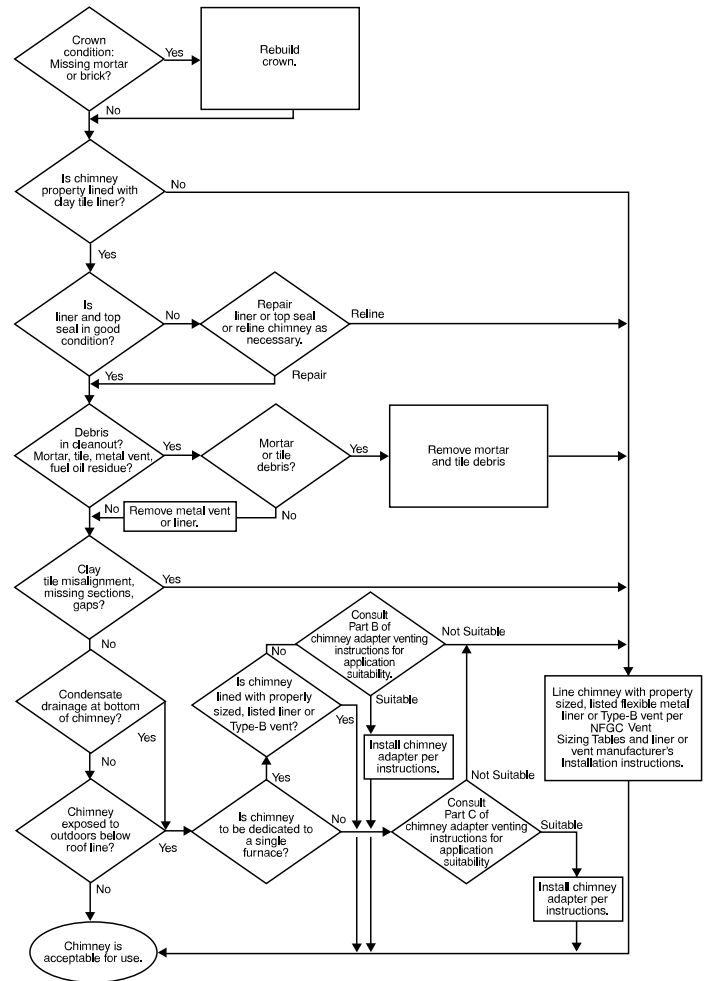

Fig. 37 – Chimney Inspection Chart
7. Do not vent this appliance into an unlined masonry chimney. (Refer to Chimney Inspection Chart, Fig. 37).
Inspections before the sale and at the time of installation will determine the acceptability of the chimney or the need for repair and/or (re)lining. Refer to the Fig. 37 to perform a chimney inspection. If the inspection of a previously used tile-lined chimney: